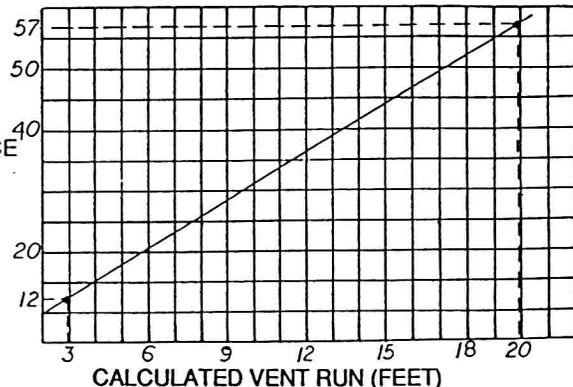

FIGURE 4
The maximum horizontal run with a 90° elbow located immediately above the fireplace is 34 inches (Fig 4 & 5).
The maximum horizontal run with a 57 inch vertical rise immediately above the fireplace is 34 feet (Fig. 4 & 6).
Use the chart on this page to calculate horizontal runs for vertical rises between 12 and 57 inches. (Fig. 4)
* NOTE: AS THE HORIZONTAL RUN INCREASES, SO DOES THE MINIMUM VERTICAL RISE. SEE FIGURE 4 FOR DETAILS